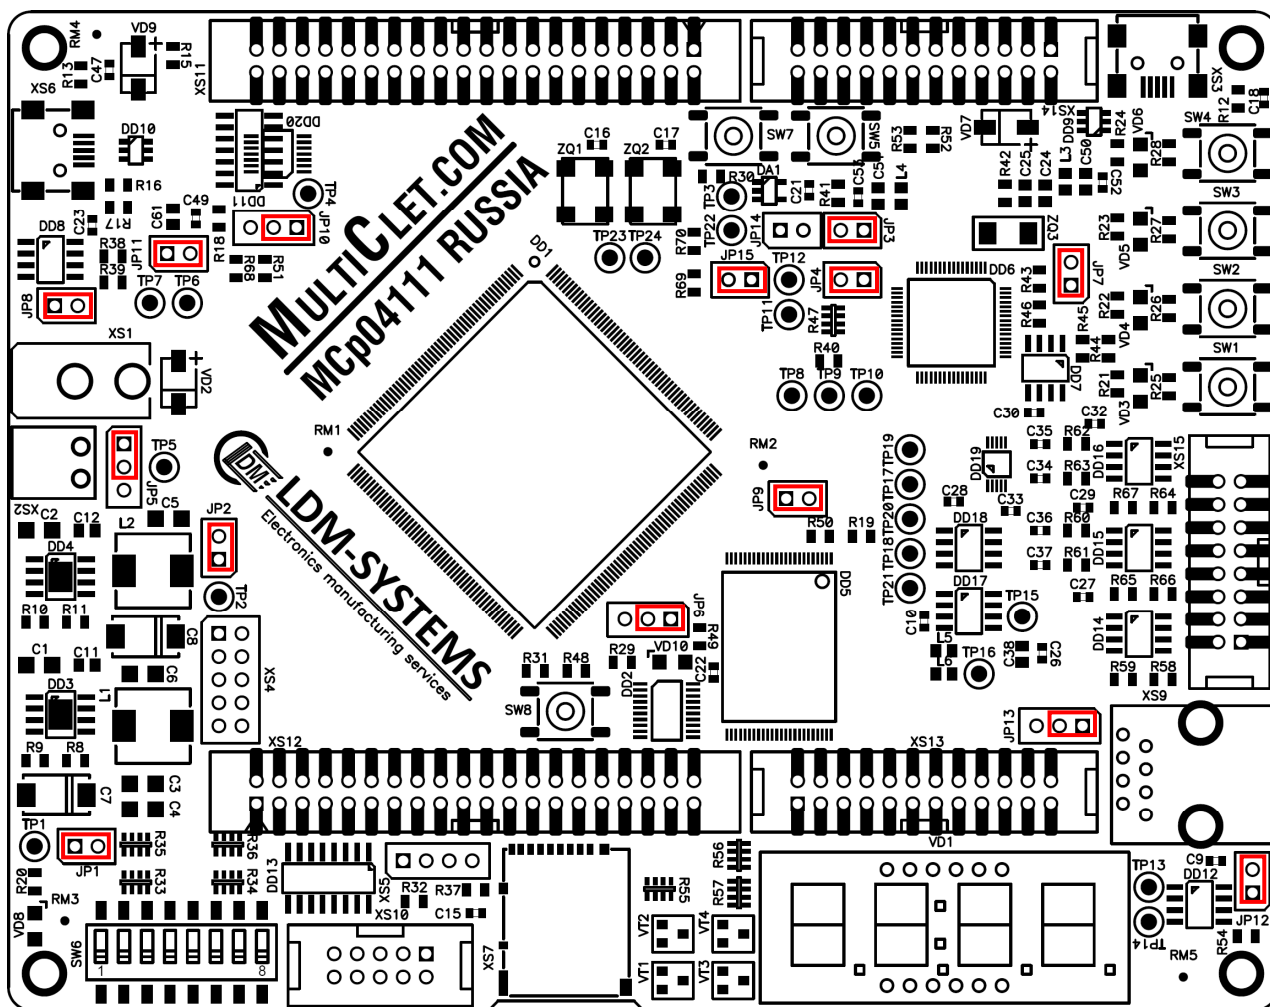

Figure 4. Default jumpers position on LDM-MCp0411100101-Q208 Evolution board
3. Check the jumper settings (Section 2.5.1, Fig. 4). If you do not have the power supply 9-12 V, the board for testing can be powered by any USB port (XS3 or XS6). To enable this feature, you need to put the jumper JMP5 from 1-2 to 2-3 position.